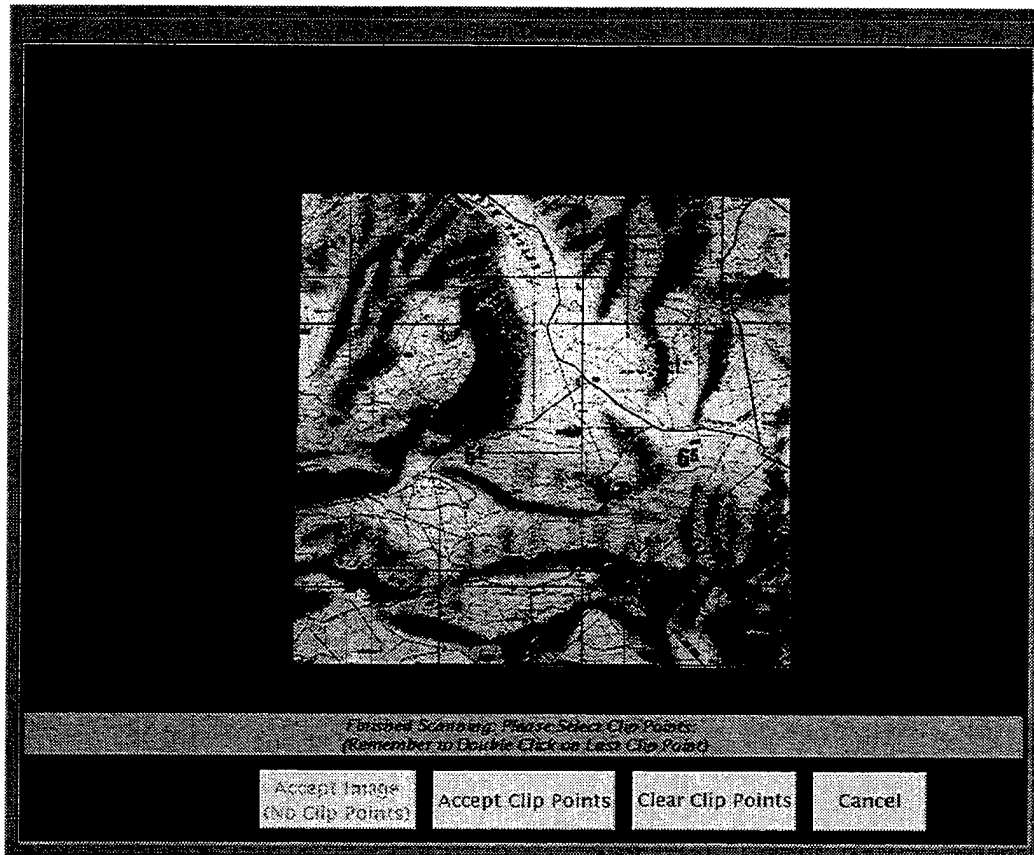

Fig. 56 — Scan overview window showing clipped image
- (c) *Select Clip Points to Trim the Image*: position the cursor over the scanned image in the **Scan Overview Window** and define a clipping polygon by clicking with the left (first) mouse button. MMC will draw a red line to show the clip region as the user selects each point. On the last clip point, double-click the mouse button to complete the clipping polygon; MMC will redraw the clipped image (Fig. 56). To start over, select the *Clear Clip Points* button at the bottom of the window. When the clip points are acceptable, select the *Accept Clip Points* button. To NOT clip the image, select *Cancel* at any time.